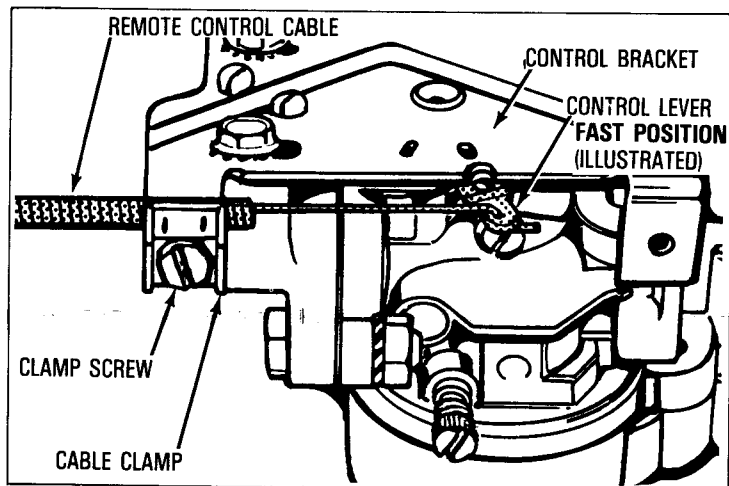

Figure 6
① REMOTE CONTROL (see Figure 6):